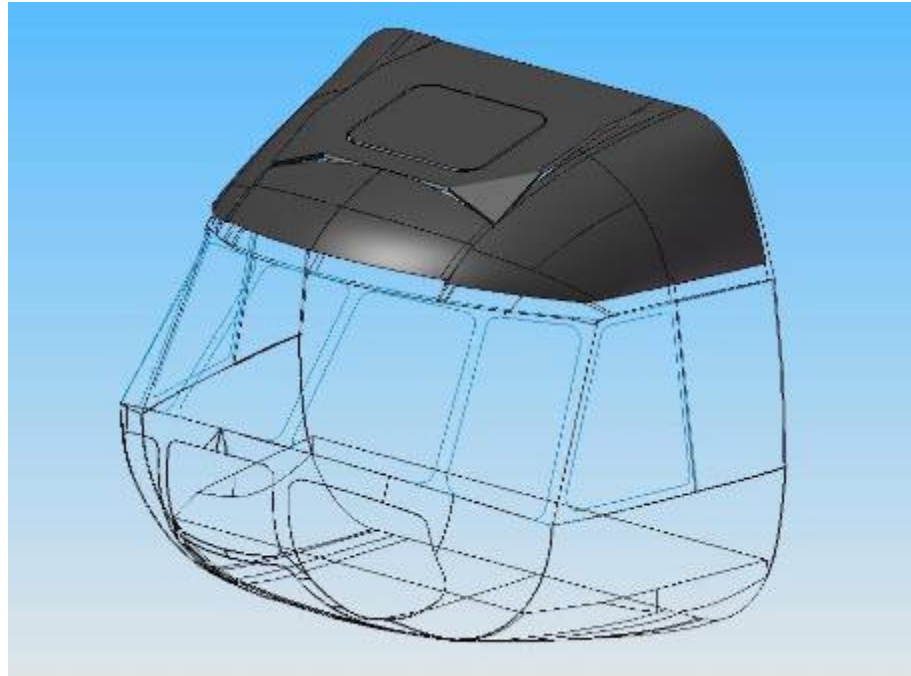

Fig.6 Two Dyneema and four SIC aramid ceramic panels provide cockpit overhead protection for pilots
- for cockpit roof (against shooters at higher altitude, for example when flying in mountain regions) – see below Figure 6;